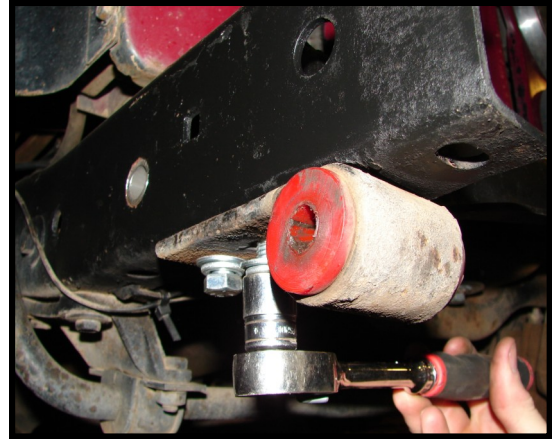

FIGURE 2
**STEP 2:** Raise and support the Jeep® with jack stands under each side of the frame behind the front springs. With the front suspension un-loaded (wheels off the ground about 3") remove the tires/wheels. Remove the front shocks. Remove the front drive shaft. Place two more jack stands under the axle housing outside the springs. Remove the front leaf springs. Remove the stock front shackle brackets from under the frame just behind the front bumper. See figure 2.